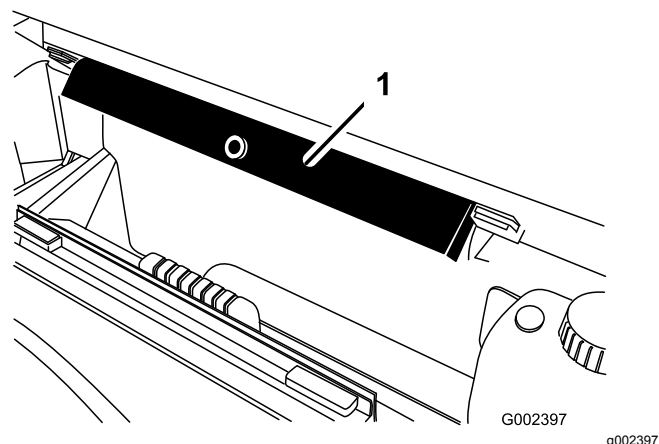
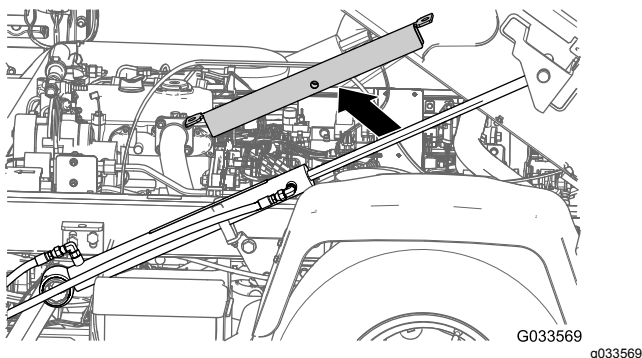

Figure 35
Figure 34
2. Remove the bed support from the lift cylinder and stow the support in the storage brackets at the back of the ROPS panel (Figure 34 and Figure 35).